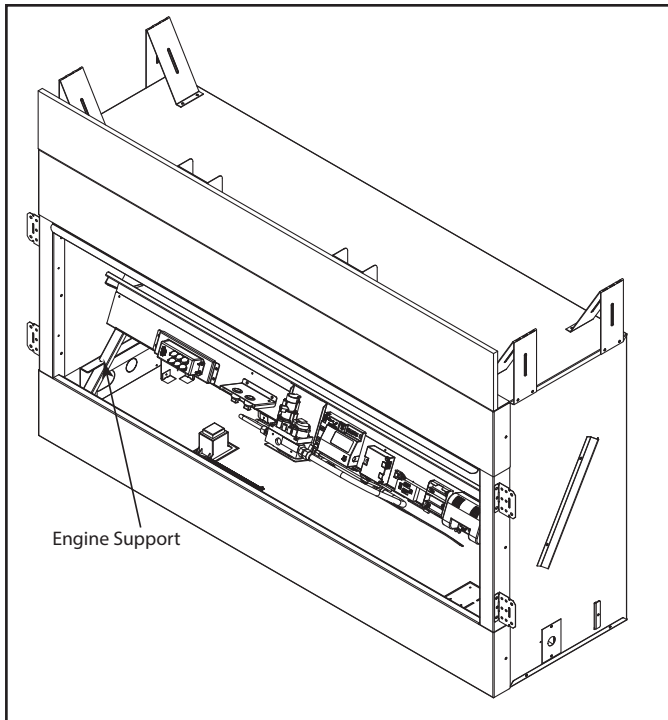

Figure 5.4 Valve Access
The valve and controls are located in the appliance control box. See Figure 5.4.
The control box and controls can be accessed by lifting engine assembly and shown in Figure 5.4.
- Remove two (2) screws securing burner assembly to appliance, set aside.
- Lift the burner assembly and place the two engine supports, provided under the Engine, against lower front space at the bottom of the face, and slide into the slots at the bottom of the engine assembly. See Figure 5.4.